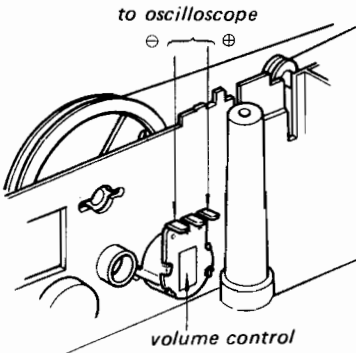

Fig. 3-3 Oscilloscope connection
2. Oscilloscope Connection: Across the volume control as shown in Fig. 3-3